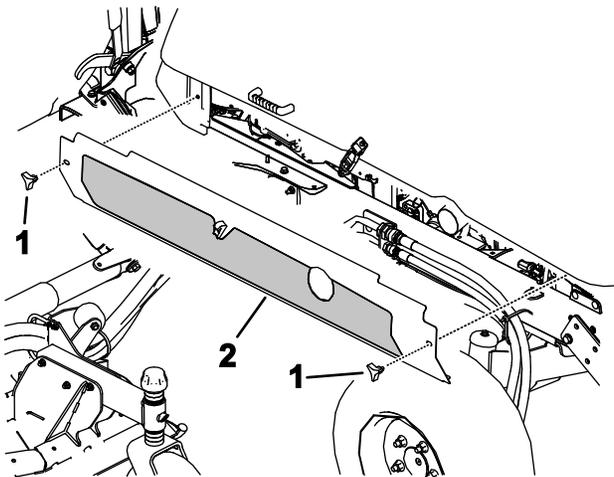

**Figure 112**
2. Remove the three 3 flange screws from each side of the rear bumper as shown in Figure 112.
6. Raise the rear bumper into position and install the flange screws. Tighten all the flange screws securing the rear bumper to the frame (Figure 112).